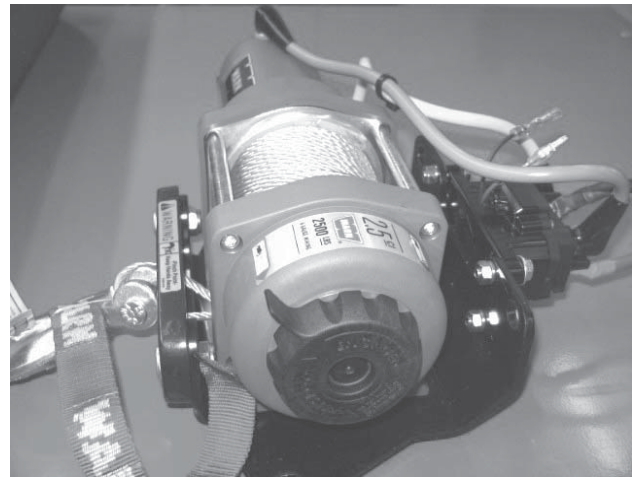

Figure 8
7. Install the winch onto the mounting plate using the four 5/16-18 hex bolts and lockwasher provided in the winch kit, torque to 19 ft/lbs. (figure 8)
8. Install the fairlead onto the front mounting tabs on the winch mounting kit using the two 3/8-16 hex bolts and nuts, torque to 33 ft/lbs. (figure 8) Install the hook using the pin and cotter pin supplied with the winch.